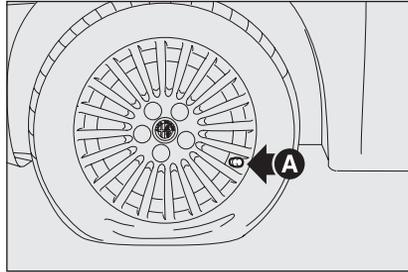

fig. 16
- set the wheel to be repaired with valve **A**-fig. 16 in the position shown in the figure, **then pull up the handbrake**, take the quick tyre repair kit and put it on the ground near the wheel to be repaired;